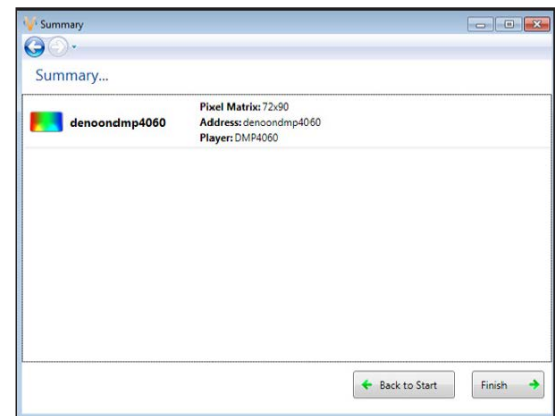

Figure 21: Display Configuration Summary
7. Click **Back to Start** in the **Summary** box to return to the beginning of the process to configure another display. Click **Finish** to complete display configuration. Refer to **Figure 21**.